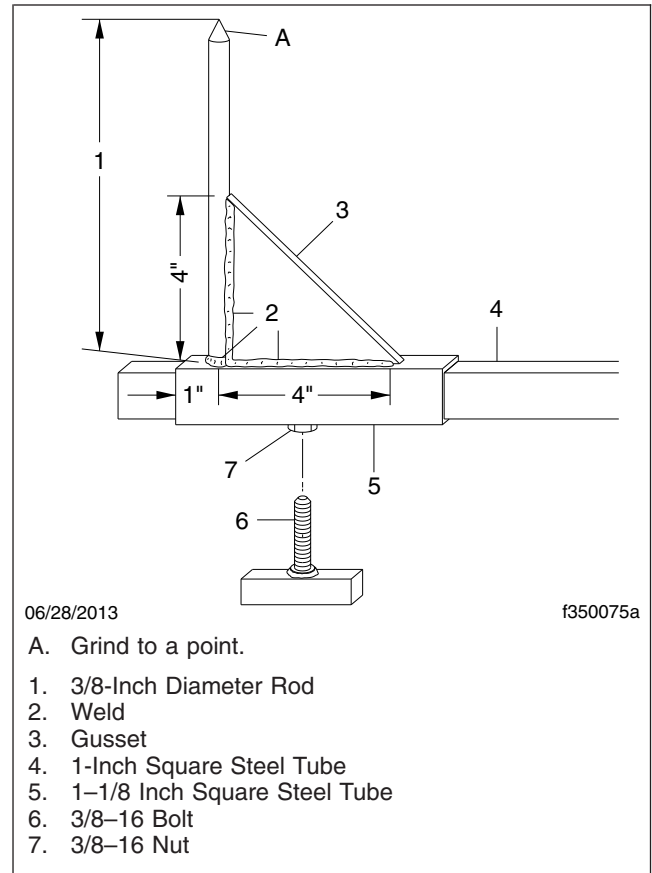

Fig. 1, Center Point Bar Construction
4. Weld the pointed steel rods to the slides and gussets, as shown in **Fig. 1**.
Bee Line or Manual	\pm 1/8-inch maximum difference in axle end-spacing; reference "B" minus "A" in Fig. 1 .